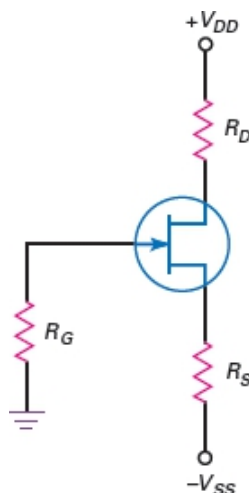

Figure-12 Two-supply source bias
- Figure-12 shows two-supply source bias. The drain current is given by: